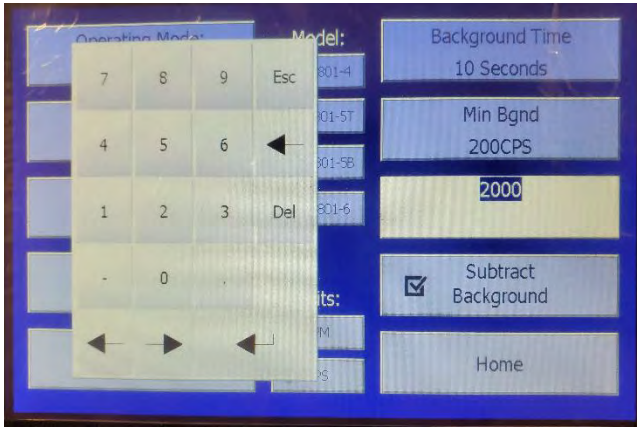
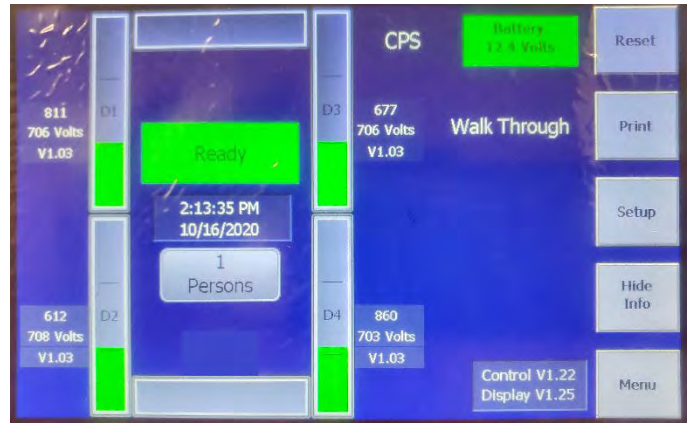

FIGURE 5
FIGURE 6
FIGURE 5 shows the key pad that will appear to edit numeric parameters. After entering the new information, the operator touches the ENTER KEY and then the HOME button to return to normal operation. The AM-801 can operate from an internal battery or from the external wall transformer connected to 120 vac 60 Hz or 250vac 50 Hz. All of the internal power is provided by a highly regulated low temperature coefficient power supply. A separate high stability power supply with a low temperature coefficient provides 300 - 1500 vdc ( $\pm 1\%$ ) and is located at each scintillation detector. The voltage from the internal batteries and/or external power supply is constantly displayed in the upper right part of the Display. The high voltage supply voltages, for each detector, is constantly monitored (alarms when out of range) and can be displayed by touching the INFO button in the lower right side of the TFT-LCD display. FIGURE 6 shows the TFT-LCD display with the information available for each detector that can be displayed on the HOME SCREEN.
- 5.3.11 MINIMUM TIME OCCUPIED: This is the time the person passing through the portal must occupy the portal to achieve a satisfactory count. This time should generally be set to 0.1 to 0.2 seconds for the WALK THROUGH MODE OF OPERATION by touching the screen and the keypad will appear like FIGURE 5. Enter the correct numbers on the keypad and touch “Enter” to return to SETUP screen
- 5.4.6 Select the “Home” button on the lower right side of the screen to return to the Home Screen. Figure 8 shows the Home Screen. Figure 6 shows the Home Screen with data i.e. detector high voltage. To remove the display of this data touch the “Show Info” button in the lower right side of the screen to make the high voltage disappear from the display.
- 5.5.6 Select the “Home” button on the lower right side of the screen to return to the Home Screen. Figure 8 shows the Home Screen. Figure 6 shows the Home Screen with data i.e. detector high voltage. To remove the display of this data touch the “Show Info” button in the lower right side of the screen to make the high voltage disappear from the display.